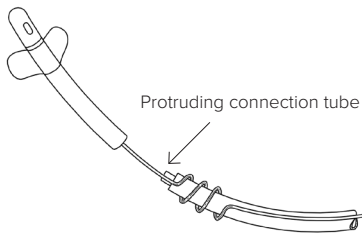

Figure 4
3. Carefully remove the rear section of the catheter by pulling lightly. Note! Only pull the catheter part and not the balloon inflation tube or the thread. Verify that all parts of the rear section, including the protruding connection tube have been removed, see Figure 4.